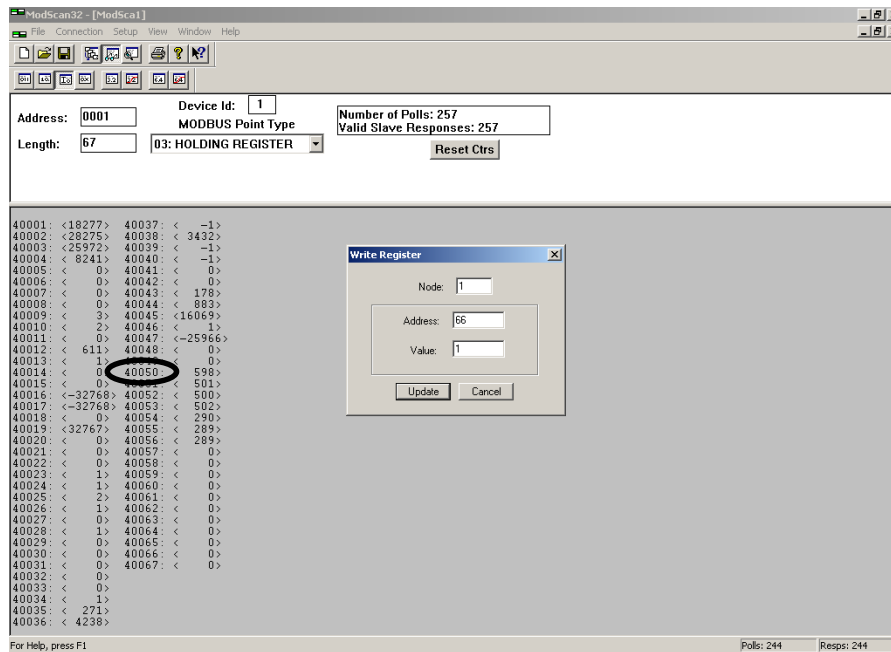

FIGURE 19. WRITE COIL DIALOG BOX
6. On the main ModScan menu (see Figure 19), change the Length to 49.
7. To output a value from the ModLon to a network device, double click on register 40050. The Write Register dialog box is displayed (see Figure 19).